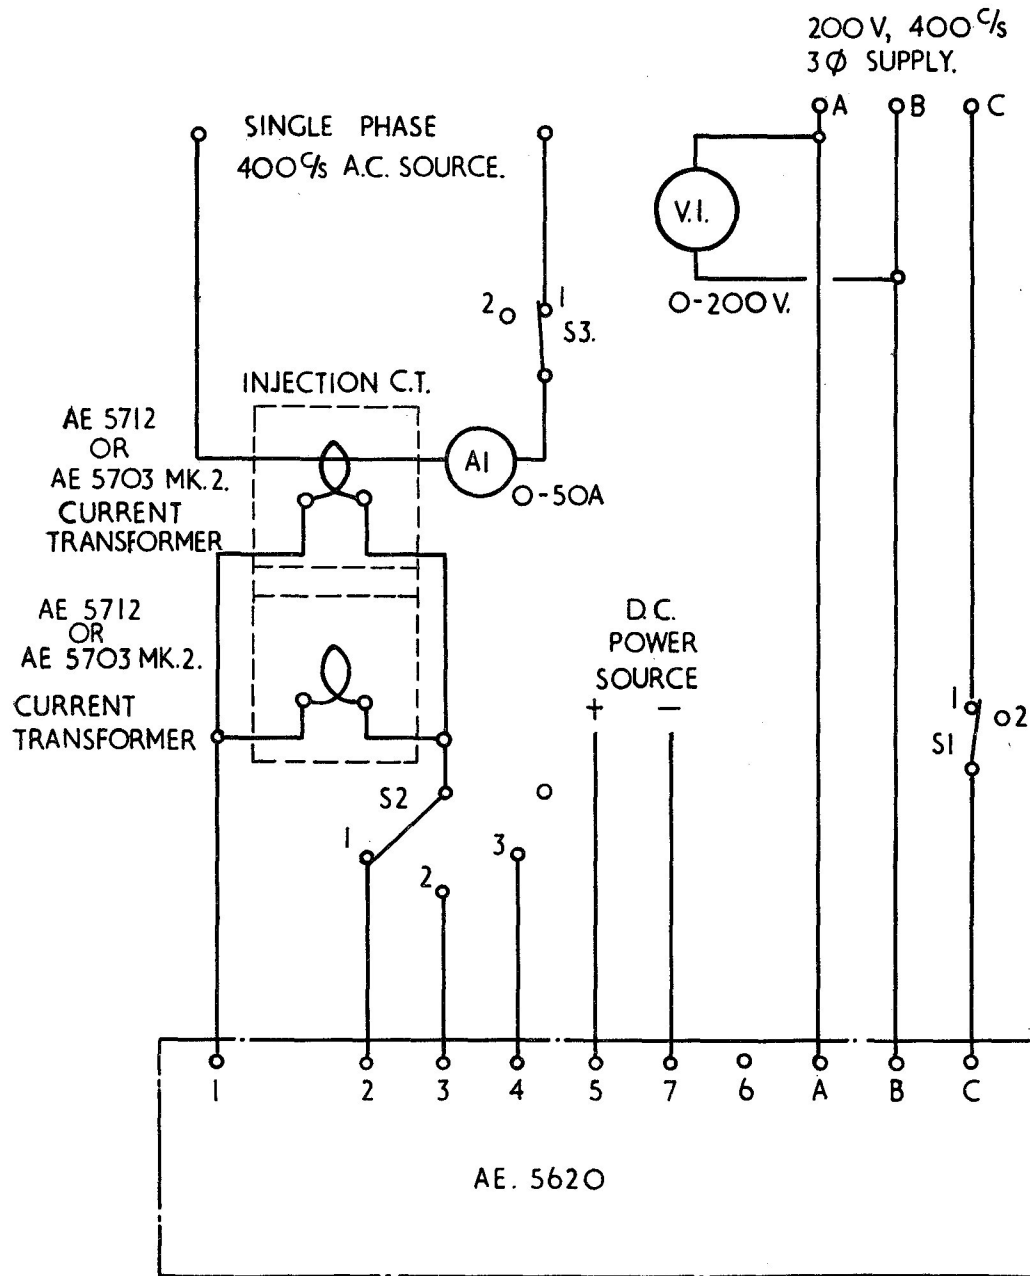

Fig. 6. Contact drop test circuit
25. (1) Connect the unit to the contact drop test circuit shown in fig. 6.